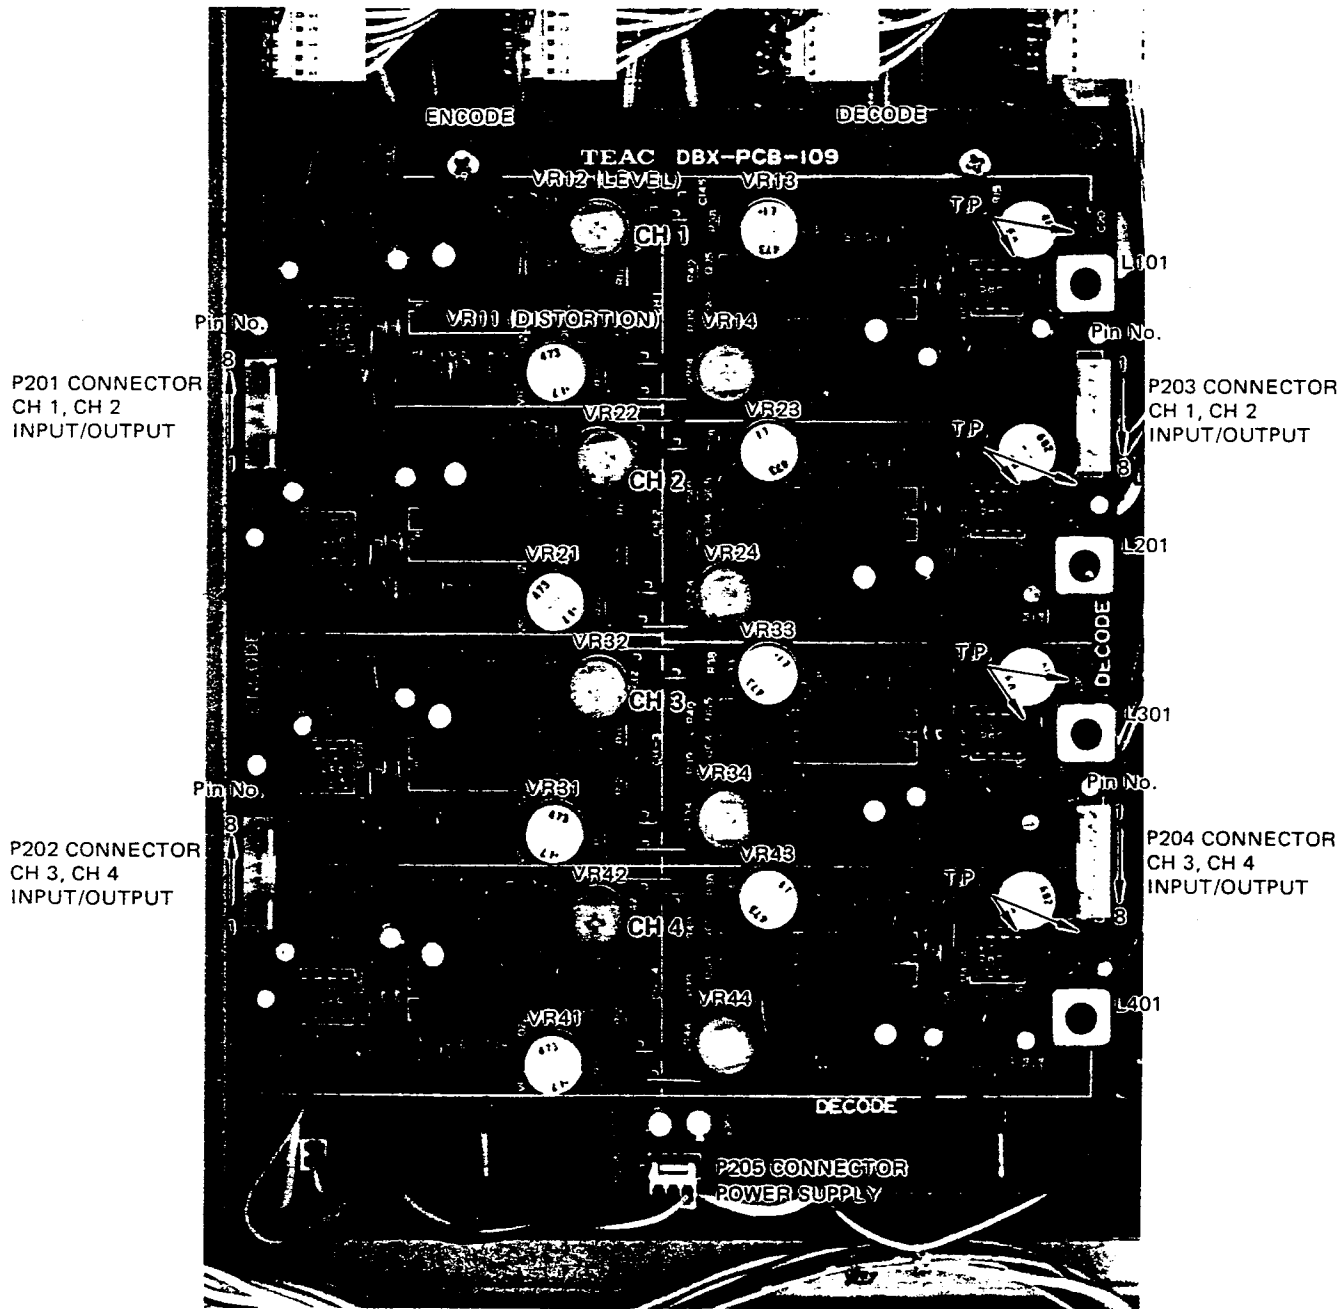

Fig. 6-7-1
Fig. 6-7-1 denotes locations of the alignments parts and associated connectors on the DBX Amplifier PCB Ass'y. Since the alignment is performed with the unit alone, disconnect all
- 1) When adjusting the bias trap coil L101 for the channel 1, connect a level meter or an oscilloscope to the output terminal pin 1 of IC U104 and the cold side terminal of the level meter or the oscilloscope to an end of the resistor R29 (or shield case of L101). Refer to Fig. 6-7-1.